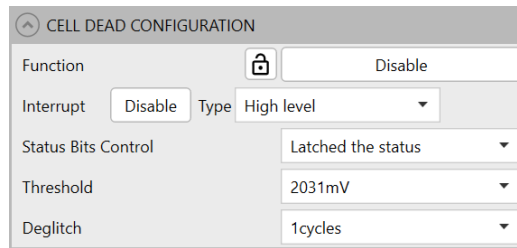

Figure 25: Dead Cell Configurations
27. Figure 25 shows how to configure the dead cell parameters, where the dead cell threshold (Threshold) ranges between 0mV and 2480mV.